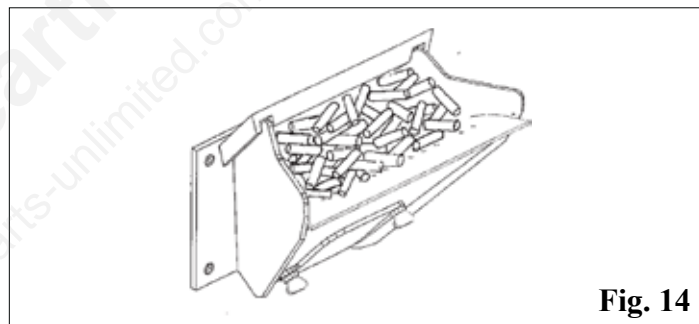

Fig. 14
8. Fill the burnpot with pellets as shown. See Fig. 14. Only fill level with the front edge. (----- **DO NOT OVERFILL** -----)